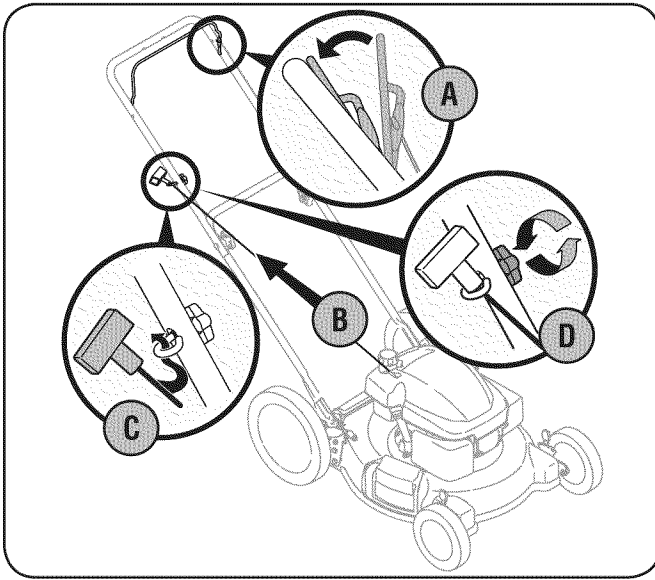

**Figure 3-2**
- a. Remove hairpin clip from this hole. Using a pair of pliers, insert hairpin clip into the hole on pin closest to the bracket. See Fig. 3-2. Repeat on other side.